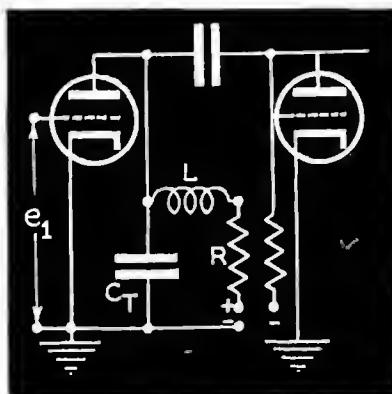
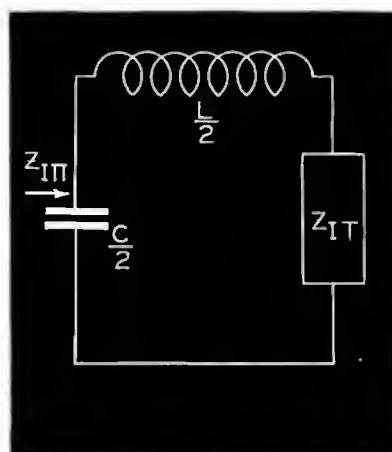
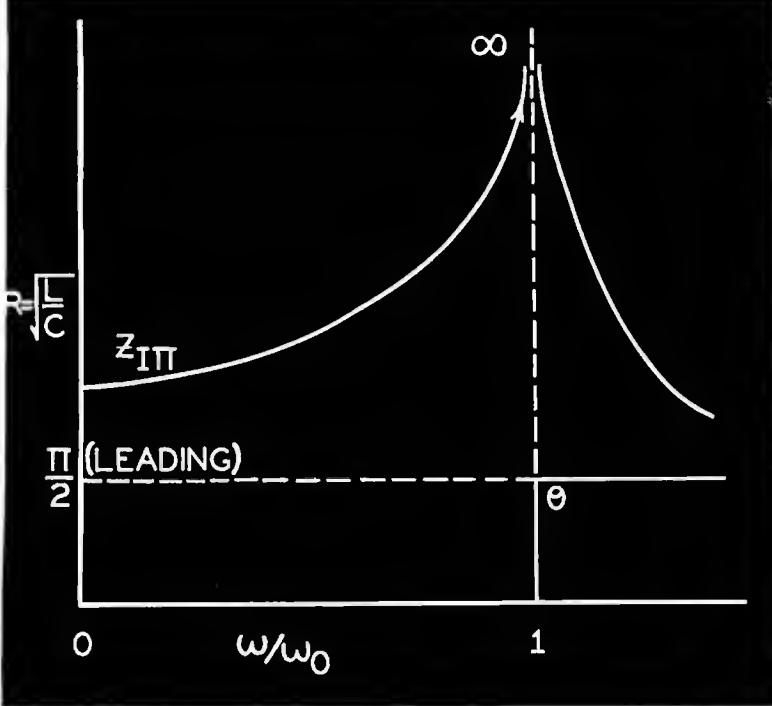

Figure 5
Figure 6
Figure 7
Figs. 5 and 6
In Fig. 5 (extreme left) appears life expectancy data of a pure tungsten filament as a function of filament voltage and minimum permissible filament voltage. Fig. 6 shows the effect of voltage fluctuation on allowable plate current and life expectancy of pure tungsten filament. Both of these curves were calculated on a basis of square wave fluctuation.
In order to maintain a high value for  $Z_L$  over as wide a frequency range as possible consistent with linearity of phase shift, various more complicated circuits are employed. A very useful method of deriving a suitable circuit configuration is based on filter theory. In Figure 5 is shown a simple modification of the resistance coupling stage shown in Figure 3A, namely, the introduction of an inductance  $L$  in series with the load resistance here denoted by  $R$ . We may regard the circuit as a parallel resonant  $LC$  circuit sufficiently damped by  $R$  to maintain a relatively constant impedance over a wide band of frequencies. However, the circuit is purposely drawn in such manner as to suggest that it represents a half section constant  $k$  filter terminated in what can be its nominal image impedance. Accordingly, it will be of interest to study the behavior of such a filter section when terminated in its true image impedance and viewed from its mid shunt terminals. (Figure 6).
We note in passing that a half section due to its asymmetry has a different image impedance when viewed from either pair of terminals. Thus (Figure 6) on the left hand side it has the image impedance of a  $\pi$  section, whereas, on the right hand side it has the image impedance of a  $T$  section. Either image impedance may be found by taking the square root of the product of the open circuit and short circuit measurements or calculations made from
If  $Z_{I\pi}$  be plotted against the frequency ratio  $(\omega/\omega_0)$ , the plot will be as in Figure 7. As  $\omega/\omega_0$  approaches unity, the denominator of Eq. (6) approaches zero and consequently  $Z_{I\pi}$  approaches infinity. For values of  $\omega/\omega_0$  greater than unity  $Z_{I\pi}$  becomes a pure capacitive reactance and decreases asymptotically to zero. The interesting feature is that for values of  $\omega/\omega_0$  less than unity  $Z_{I\pi}$  is a pure resistance, which, however, is a function of frequency. Such an impedance is not physically realizable and arises in this example because of the assumption that this half section is terminated at its right hand end (Figure 6) in the true image impedance of a  $T$  section. The latter image impedance is not physically realizable since one suggested form for it is an infinite succession of  $T$  sections in cascade. However, were such a termination physically available it would not be of any use as shown since the gain (which would be simply  $G_m Z_{I\pi}$ ) would rise to infinity (in the case of a true constant current generator) as  $\omega/\omega_0$  approached unity. In practice, the gain would rise to a peak instead of being flat over a band of frequencies and then falling off gradually. It is therefore evident that a constant  $k$  half section filter is not in itself desirable unless suitably modified. A general method of modification is due to Percival2 and is given in the next sec-